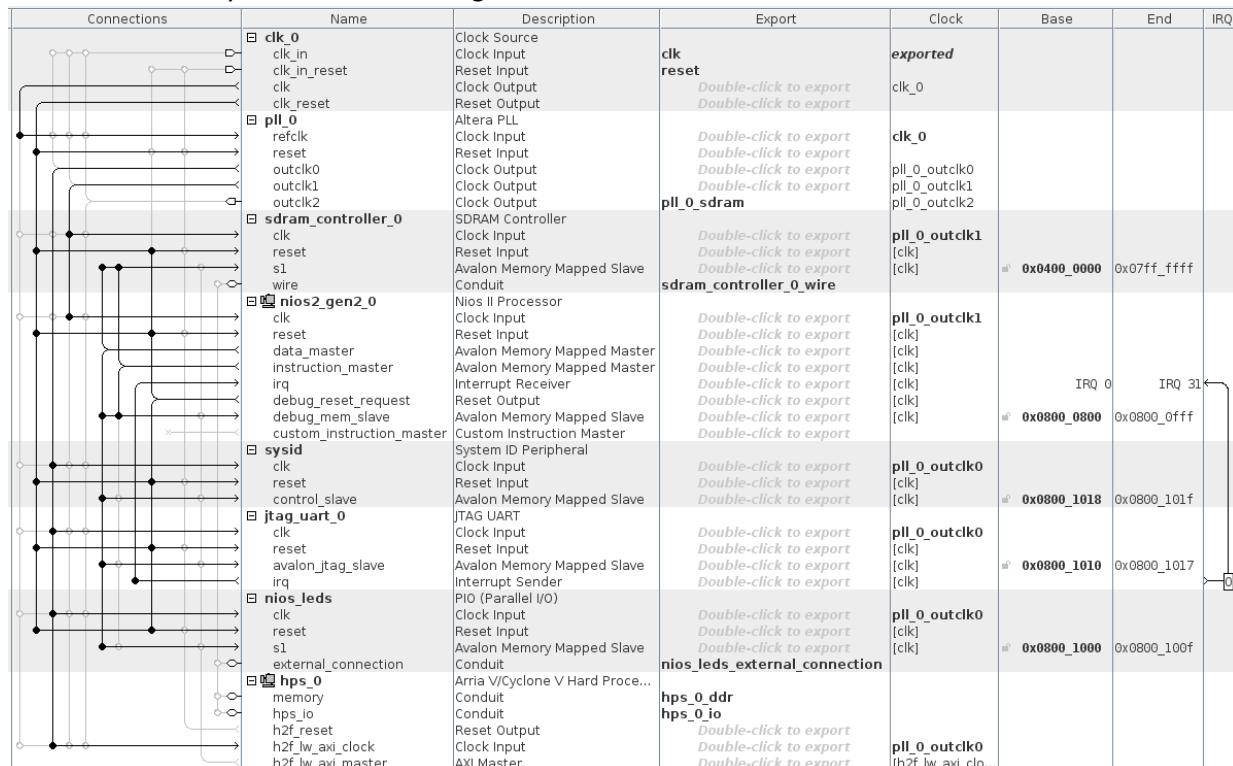

Figure 9-13. Adding the "Standalone" HPS to the System
25. Connect the system as shown in Figure 9-13 below: